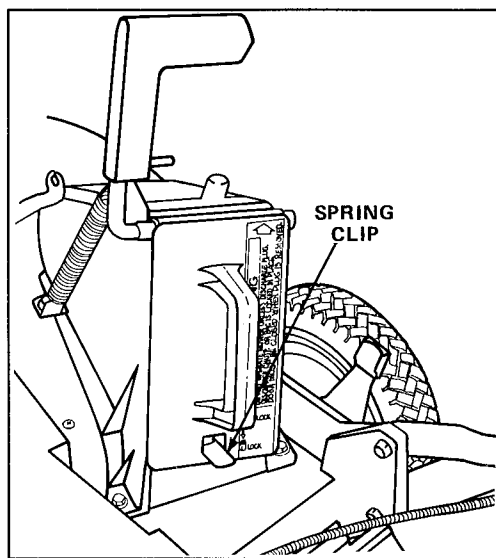

Figure 11
3. Push the plug all the way in until the spring clip on the bottom of the plug clicks into place, locking the plug securely into the discharge tunnel (Fig. 11). Release the discharge door handle to lock the top of the plug.